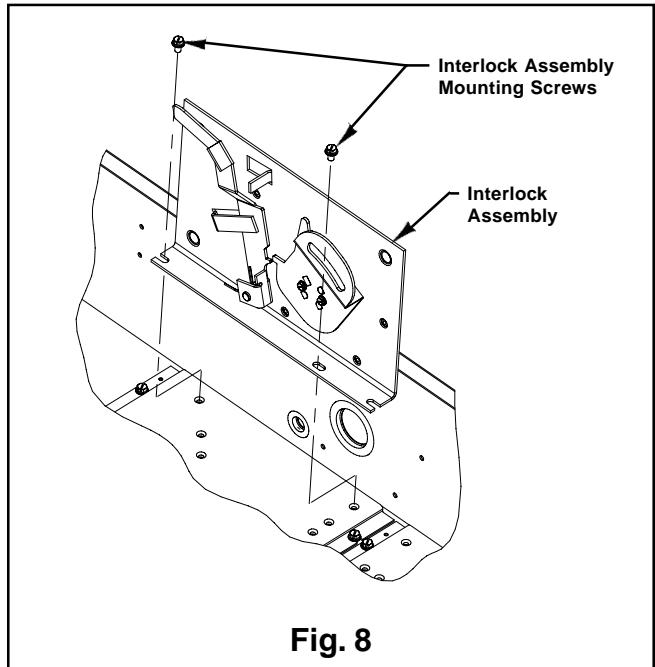

Fig. 8
9. Place new Interlock Plate Assembly in switch as shown in **Figure 8** and secure with the  $\frac{1}{4}$ -20 X  $\frac{3}{8}$ " thread forming screws provided in this kit. Torque Interlock Assembly Mounting Screws to 64 lb-ins.